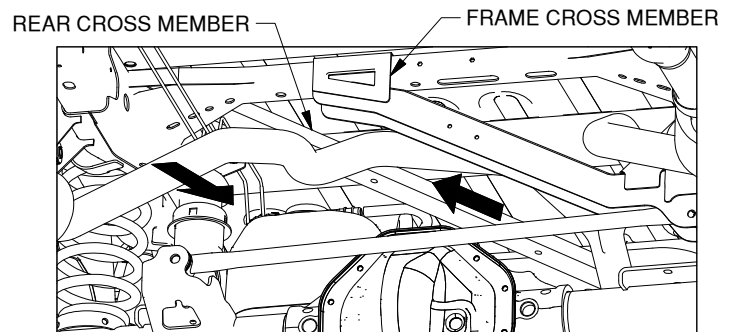

Figure B2: View looking under truck bed toward the cab.
4. **Place the rear cross member.** The rear cross member is the 2" x 1" bar with three threaded holes. Pass the cross member over the axle on the driver side of the differential from the rear. Angle the leading end of the bar towards the passenger side of the frame while going in front of the exhaust. Place the trailing end of the bar over the driver side frame rail, as shown in Figure B2. Swing the leading end of the cross member over the passenger side of the frame so that it is parallel with the axle. Rotate the bar so that the threaded holes are horizontal, and the bar is sitting on top of the frame cross member. Slide the bar rearward until it is touching the bed cross member. Make sure that the wiring harness does not get pinched or smashed while moving the cross member rearward.